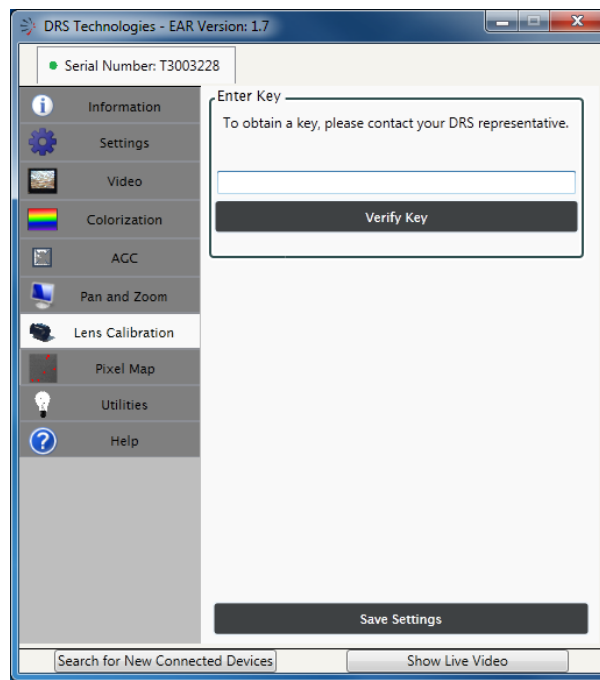

Figure 36. Pass Key
2. Clicking the Lens Calibration tab for the first time, the user is prompted to enter a pass key. To obtain a pass key, please contact your DRS representative. Figure 36 illustrates the pass key screen. The hash number is used to generate a unique pass key. The computer and pass key are tied together. The pass key is a 25 character alpha numeric string which is typed or pasted into the text box.